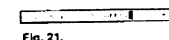

Fig. 21.
- 5 Select a letter or number with Δ or ∇ and press OK. The next element will be highlighted. Select other characters in the same way. If you want to leave an element blank, select - and press OK. (See Fig. 21.)